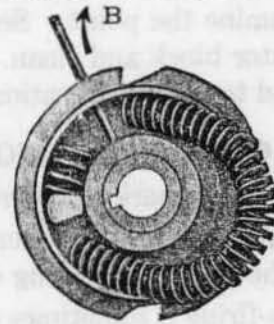

Figure 15-A
Note in Fig. 15-A the location of the short, or cushion, spring against the post. To put the actuating, or long, spring in place, a pin or nail (B) should be inserted in the lateral hole. The ends of the spring are pressed into the spring chamber first, and by pressing on the middle portion, it can be easily placed. This will leave a suitable opening between the small cushion spring and the pin (B) for the lug in the cover. After the cover, or cam member, is pressed into position, the pin or nail may be removed, leaving the unit assembled.